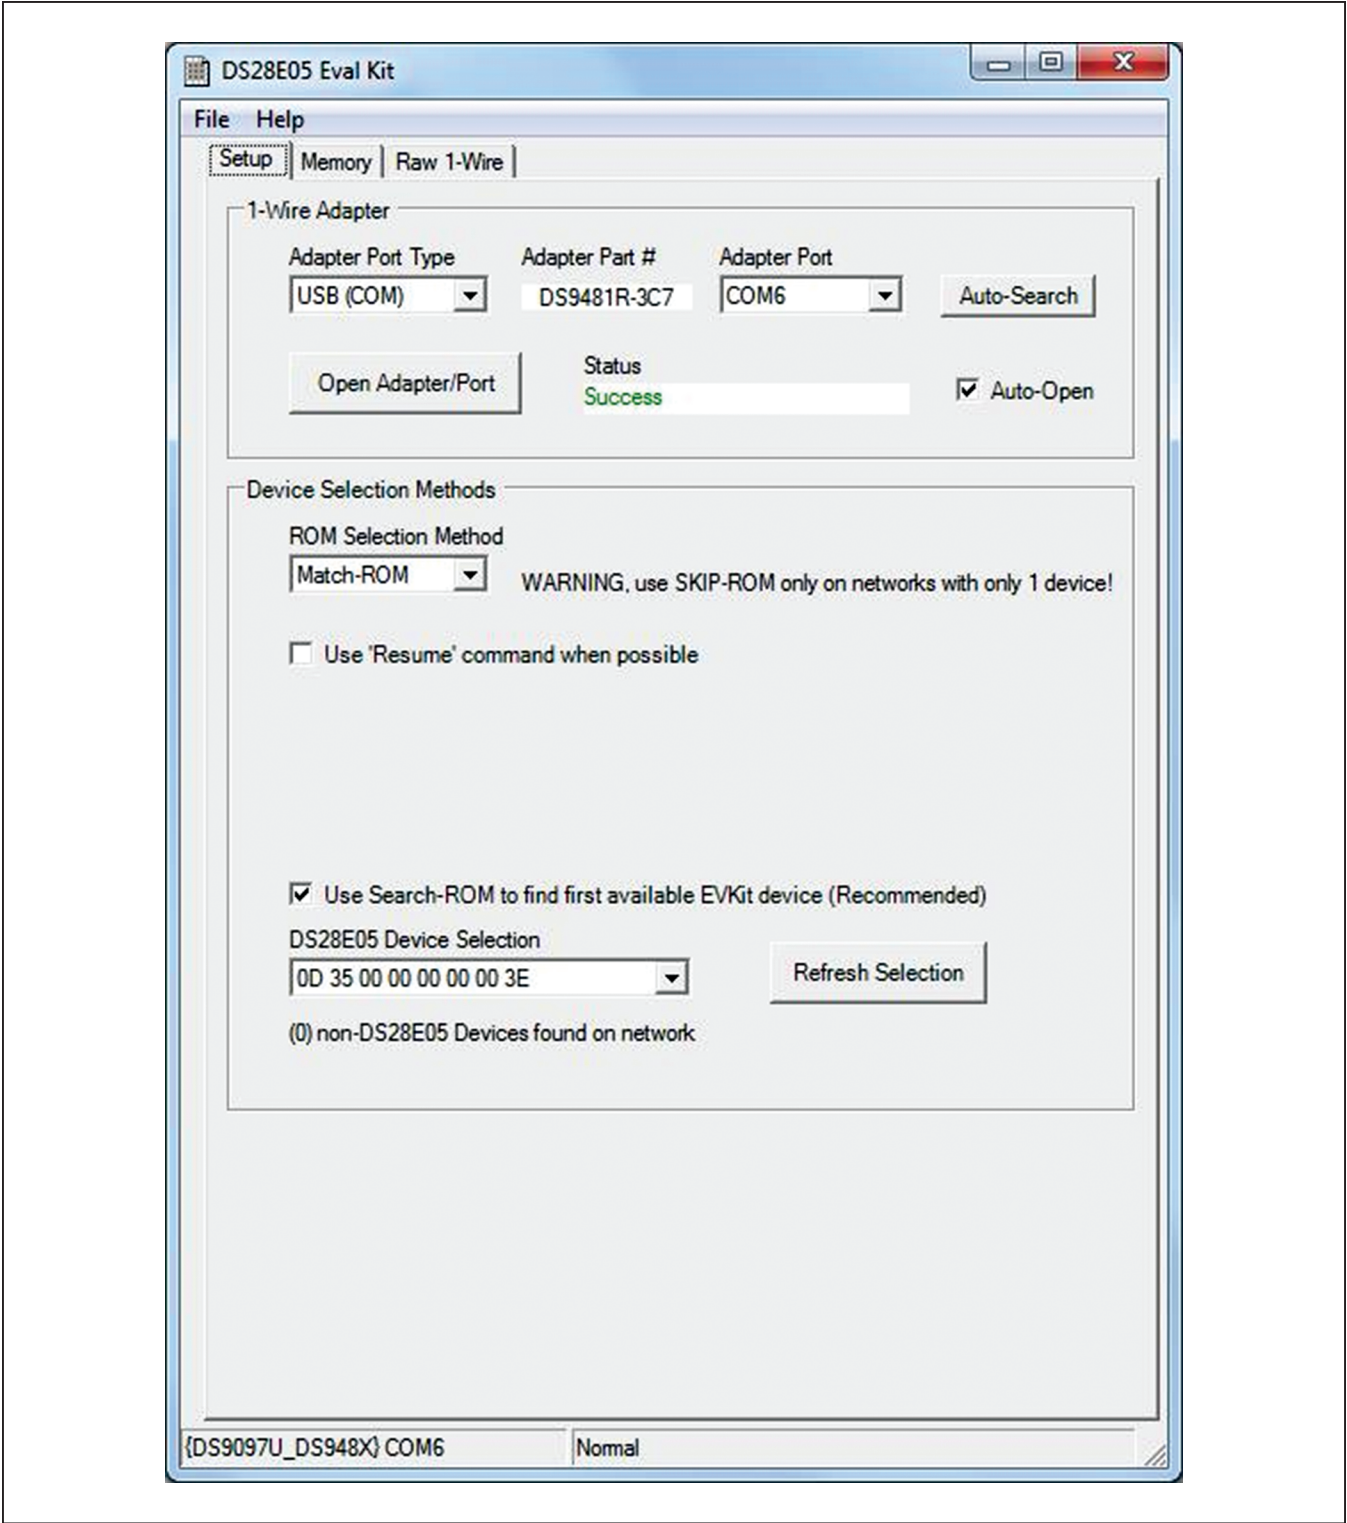
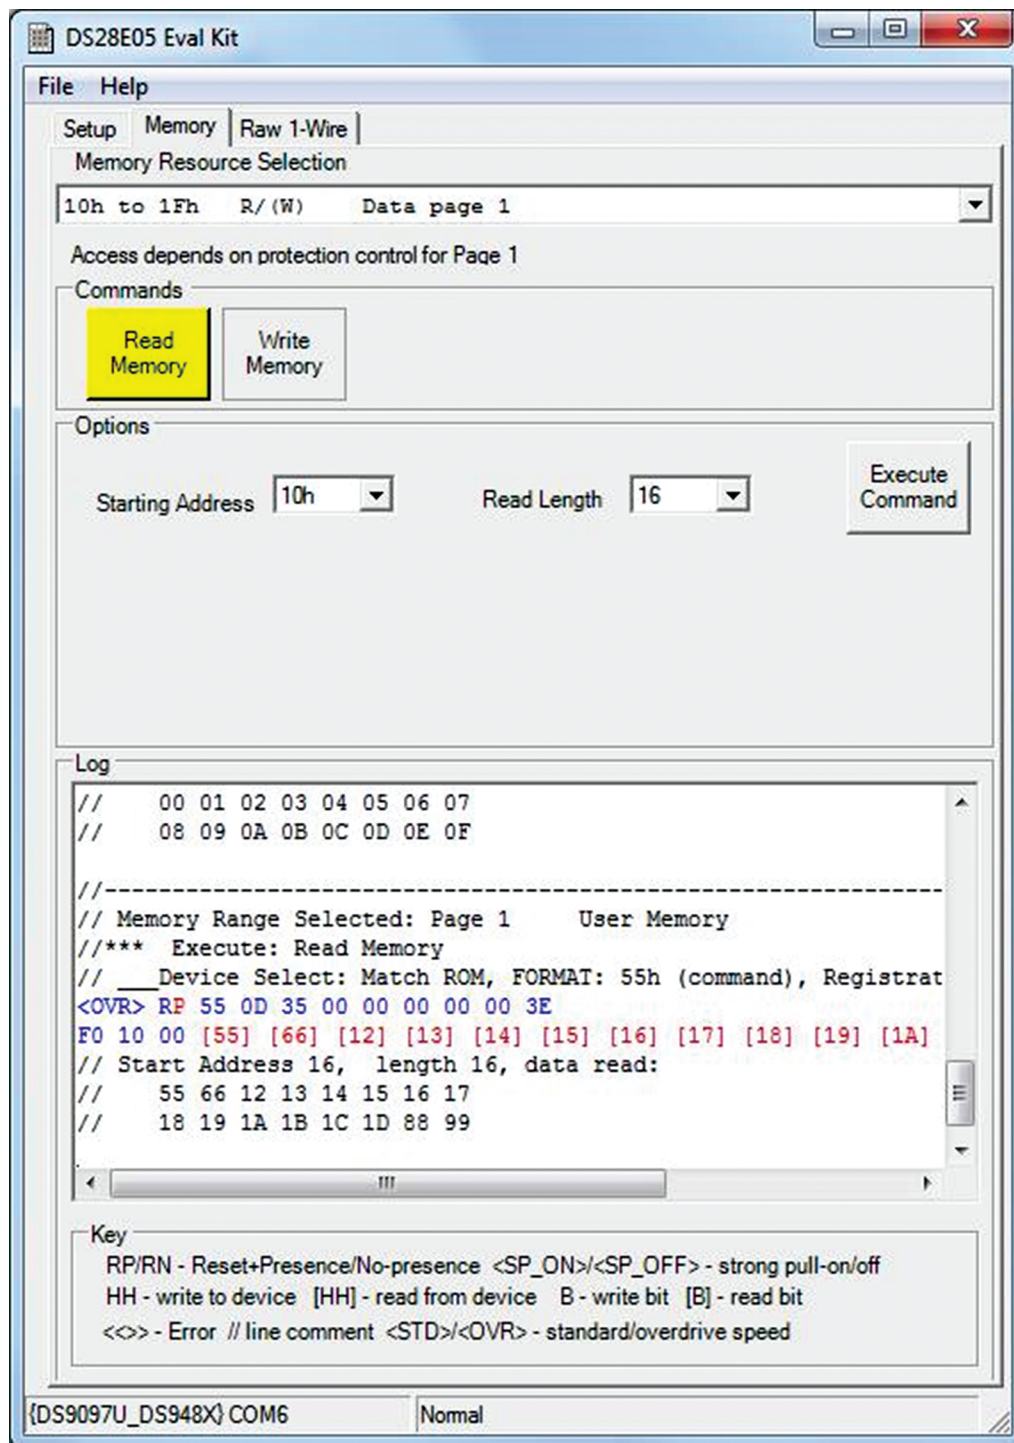

Figure 4. Evaluation Software Main Window—Setup Tab
Figure 5. Evaluation Software Main Window—Memory Tab
- 1) In the **1-Wire Adapter** group box on the **Setup** tab (Figure 4), the **Adapter Port Type** is fixed at **USB (COM)** with the **Adapter Part # of DS9481R-3C7**. The **Adapter Port** is a COM port mapped by the Prolific device. Click on the **Open Adapter/Port** button or on the **Auto-Search** button. If successful, the **Status** field next to the **Open Adapter/Port** button displays **Success**.
- 5) Once the device has been selected, click on the **Memory** tab (Figure 5). Select the memory range from the **Memory Resource Selection** drop-down list.
The software program's main window (Figure 4) contains three tabs: **Setup**, **Memory**, and **Raw 1-Wire**. The starting tab is **Setup**, which contains the 1-Wire adapter/port and device selection options. The **Memory** tab shown in Figure 5 contains the main demo with four areas from top to bottom: **Memory Resource Selection**, **Commands**, **Options**, and **Log**. The **Raw 1-Wire** tab shown in Figure 4 contains buttons and fields to send and receive raw 1-Wire communication.
The software window contains a menu at the top, as seen in Figure 4. The log can be copied to the clipboard through the **File/Copy Log to Clipboard** menu item. The log can be cleared through the **File/Clear Log** menu item. The **Help** menu displays the version of the software. The **File/Exit** menu exits the EV kit software.
The **Setup** tab sheet (Figure 4) contains two sections: **1-Wire Adapter** and **Device Selection Methods**.
The **Memory** tab (Figure 5) contains five sections: **Memory Resource Selection**, **Commands**, **Options**, **Log**, and **Key**